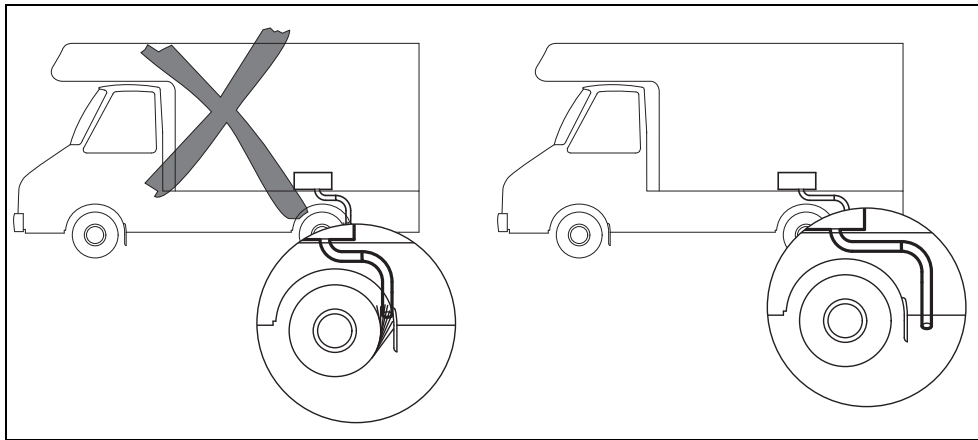

Fig. 41: Avoid the line becoming clogged with dirt
- The pipe must be located so that it cannot become clogged with dirt or snow. See Fig. 41.